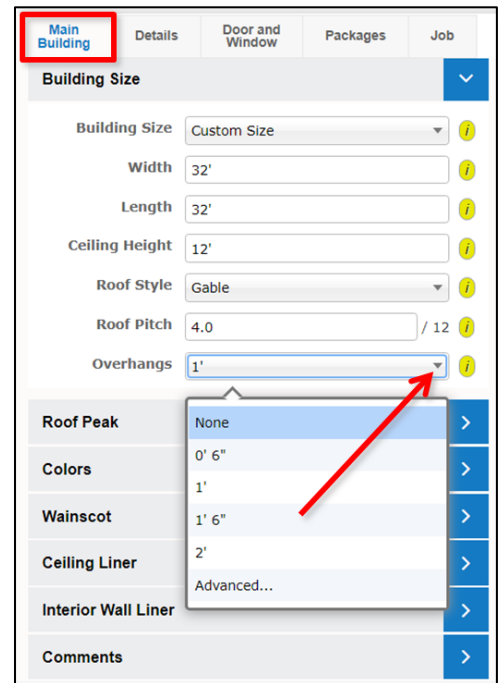

Figure 19: Changing the size of Overhangs in the *Properties Pane*.
4. With your job now open on the *Edit Job* page in *3D View Mode*, click on the *Main Building* tab in the *Properties Pane* as pictured in Figure 19.